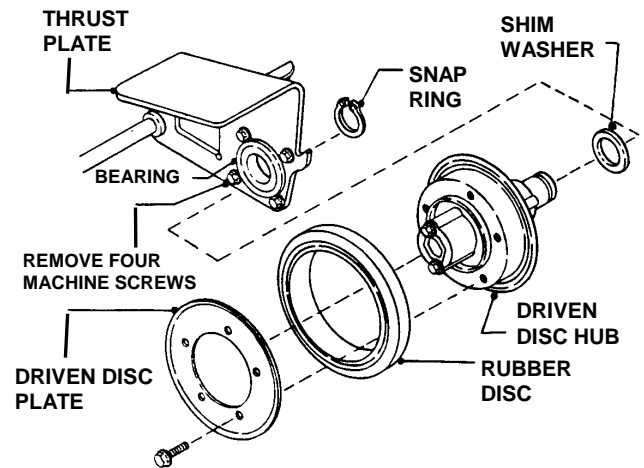

FIGURE 4.12
1. Remove snap ring. See Figure 4.12.